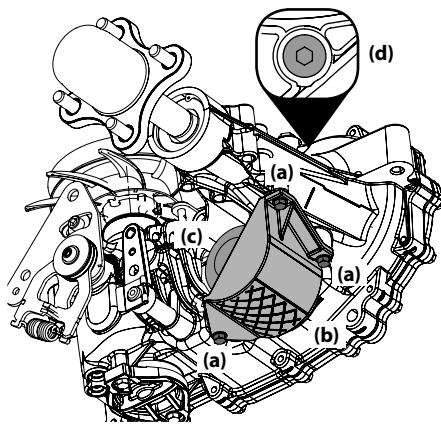

Figure 4-7
2. Remove the three filter guard screws (a) and the filter guard (b). Clean any loose debris from around the filter (c). See Figure 4-7.
7. Remove the top port plug (d) from the transaxles to allow the transaxles to vent during filling. See Figure 4-7.